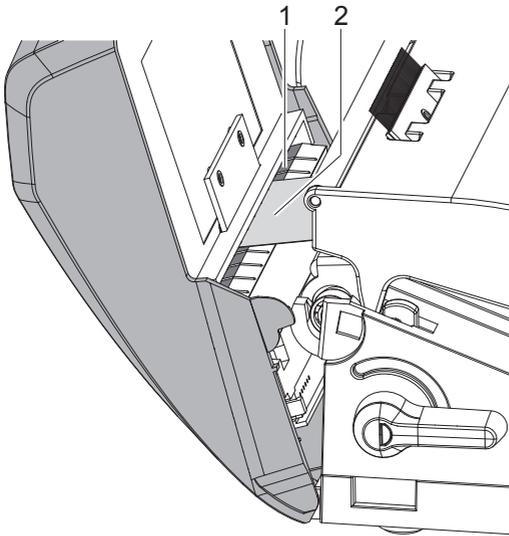

Figure 3 Guiding labels and tube into the perforator unit
- ▶ Gently pull the perforator unit forward as shown in Figure 3,